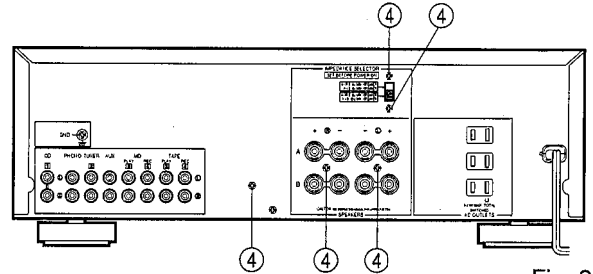

Fig. 2
- Remove 5 screws (④) fixing the Speaker terminal, Impedance Selector and Heat Sink in Fig. 2.